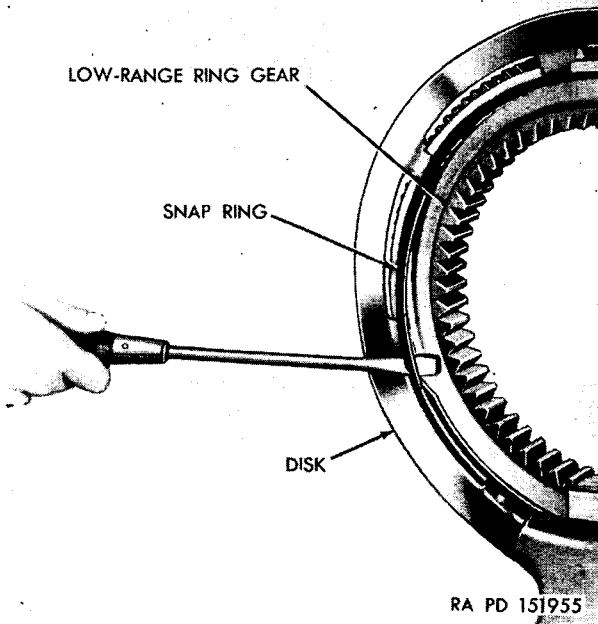

Figure 216. Removing ring-gear snap ring.
k. LOW-RANGE RING GEAR ASSEMBLY. Inspect the low-range ring gear assembly (fig. 214). If either the ring gear or the ring-gear disk is defective, use a screwdriver to remove the snap ring which retains the disk to the gear (fig. 216). Replace the defective part. To assemble, place the disk on the gear making sure that the "cone" of the disk is toward the snap ring, and install the snap ring.